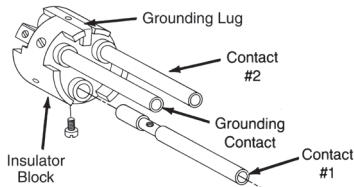

Figure 3. Insulator/Contact Assembly
6. Remove contacts #1 and #2 from insulator by removing slotted head screws in sides of contacts (see Figure 3).
- Place insulator/contact assembly into plug body with grounding lug (see Figure 3), align with slot in insulating sleeve and polarizing slot on exterior of plug body.